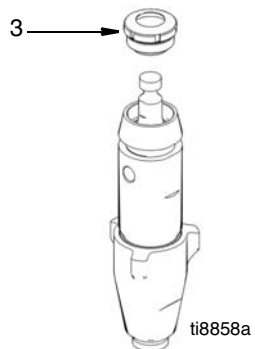

FIG. 13
11. (Fig. 13) Install packing nut (3) into cylinder and hand tighten.